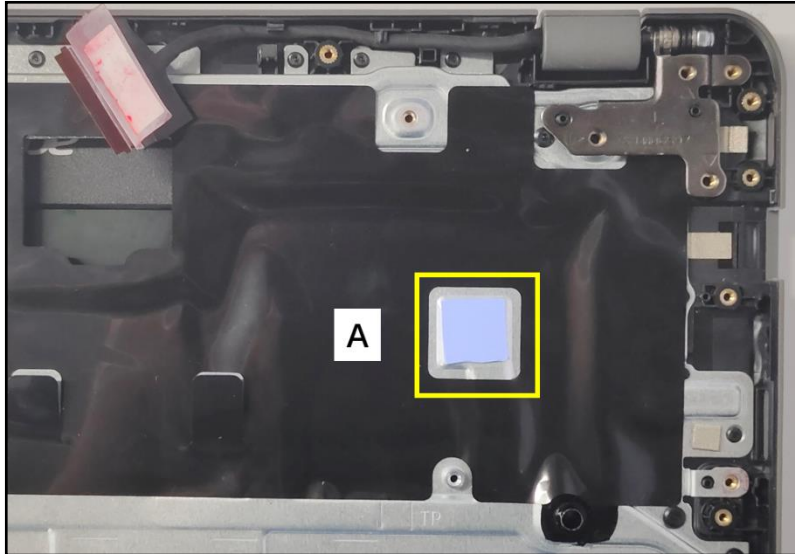

Figure 3-83. Replacing the Mainboard
1. Attach the thermal pad (A) on the top assembly (Figure 3-83).